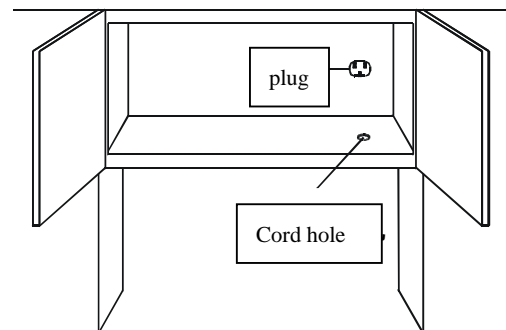

Fig. 2
3. In F of the attached figure 2, bore a hole 38mm
4. Bore a hole along the broken line of the shading part of figure 2